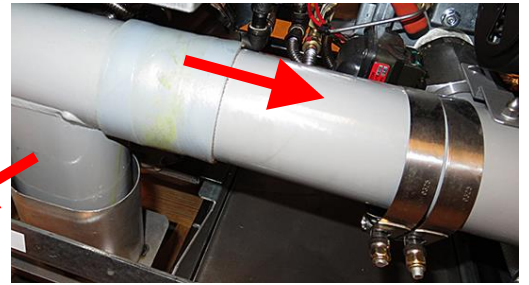

Figure 7
9. Slide both clamps, to the right past the sleeve, out of the way (see Figure 7).